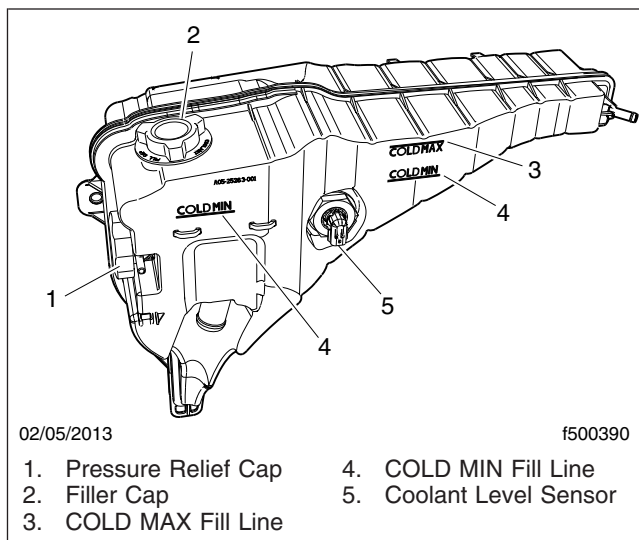

Fig. 20.5, Coolant Surge Tank
5. Check the engine coolant level in the radiator surge tank. See Fig. 20.5.